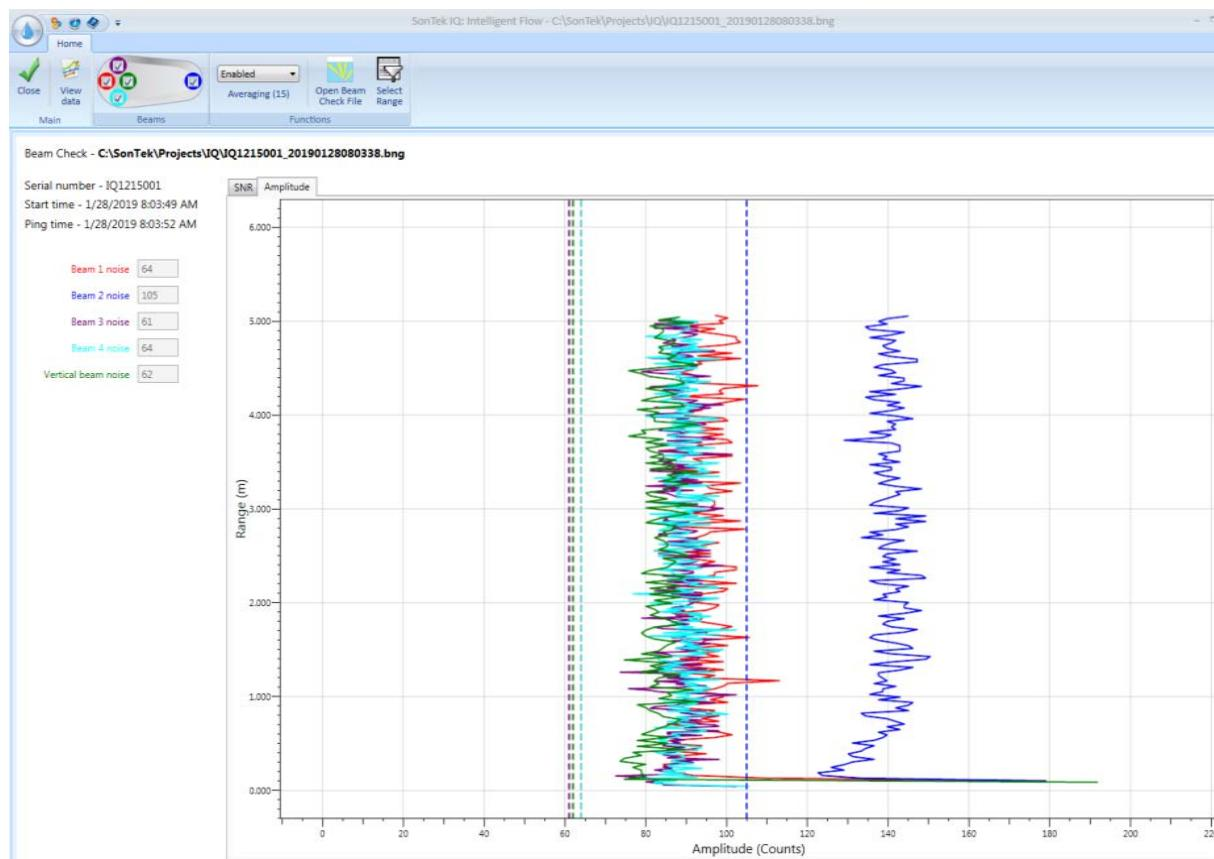

Figure 104. Beam Check Amplitude Display
- Beam Check is found under Utilities → Beam Check. Once opened, a graphic will be displayed as in Figure 104.